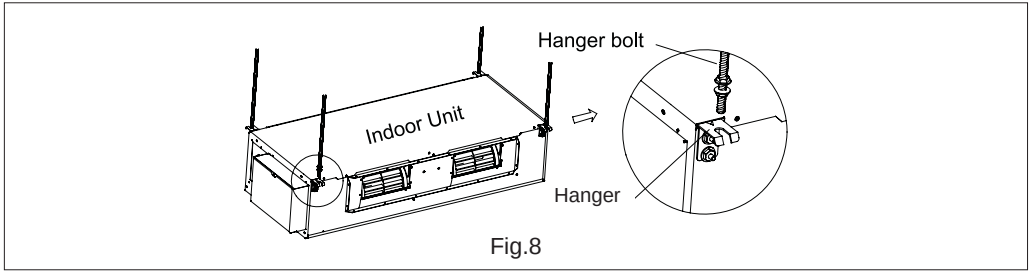

Fig.8
- (3). Install the hanger to the unit. (Fig.8)